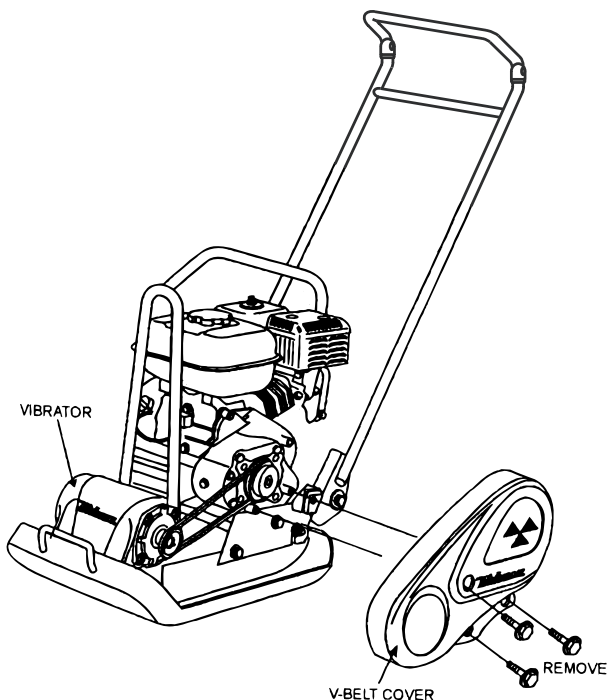

Figure 8. V-Belt Cover Removal
1. To check the V-belt tension, remove the three bolts that secure the belt cover to the frame as shown in Figure 8.